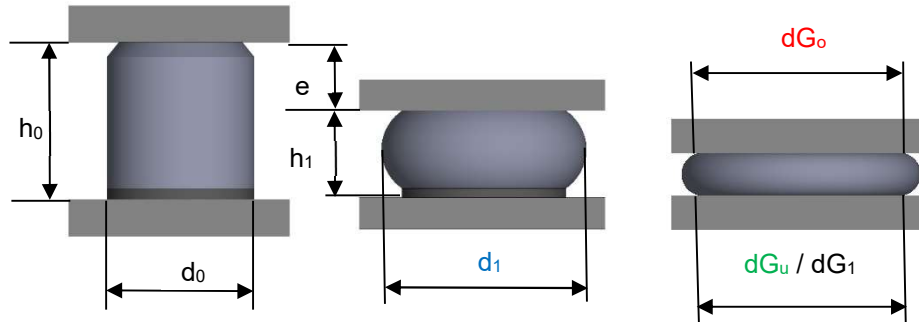

Fig. 5: convex expansion and contact to counter-pressure plates
4.2 When the buffer is compressed from the initial diameter d_0 and the elastic height h_0 by a distance e to the remaining height h_1 , it expands to the diameter d_1 convexly. In the case of big deformation, the widened area in diameter d_{G_u} , d_{G_o} or d_{G_1} comes into contact with the counter-pressure plates (fig. 5).